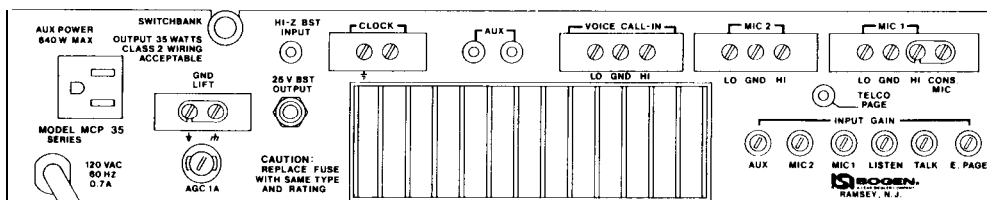

Figure 3-Model MCP35, Rear Panel
1. Locate and loosen the two screws securing the jumper link on the rear chassis terminal strip connecting the MIC 1 HI terminal to the CONSOLE MIC terminal. (Refer to Figure 3-Rear Panel illustration.)